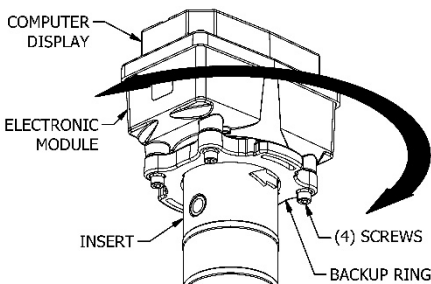

Figure C4
FLOMEC ultrasonic inserts are designed to measure flow in only one direction. The direction is indicated by the arrow on the insert. If the computer display is not oriented as desired for your installation, it can be rotated **by rotating the electronic module**. (See Figure C4)
NOTE: To rotate the computer display, loosen the (4) screws retaining the backup ring against the clamping flange of the insert. (See Figures C4 & C4A)